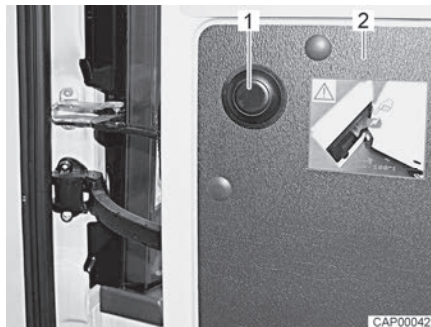

Fig. 11 Push button to release the limitation
- Open the rear door (Fig. 11,2) as far as it will go.
- Press the push button (Fig. 11,1), hold rear door and continue opening carefully.